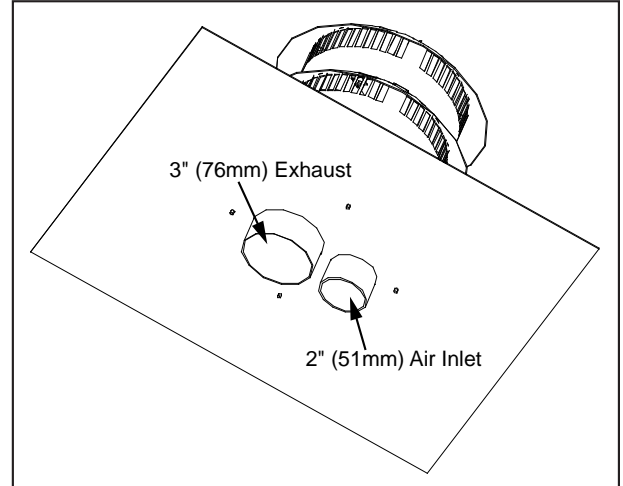

**Figure 29: Vertical Vent Cap Dimensions.**
**Note:** For any chimney over 15' (4.6m), install the E20 15' 2" & 3" Flex Vent (part #50-1512) and the E20 2" & 3" Flex Couplers (part #50-1513). Place a bead of sealant on the coupler (Mill-Pac Black sealant for the  $\varnothing 3$ " (76mm) and high temperature silicone for the  $\varnothing 2$ " (51mm)) Slide the meeting ends of the flex over the coupler and fasten each joint in place with three (3) sheet metal screws through the flex and into the coupler.
4. The Vertical Vent Cap can be installed onto chimneys with flue openings up to 16" (406mm) x 16" (406mm) and the actual flashing is 18"x18" (refer to Figure 29). If the chimney is smaller the cap should be trimmed down and folded over.
5. Apply a bead of Mill-Pac Black sealant to the top section of the  $\varnothing 3$ " (76mm) vent collar plate. Slide the  $\varnothing 3$ " (76mm) flex vent over the flue collar and secure with three (3) sheet metal screws evenly spaced.